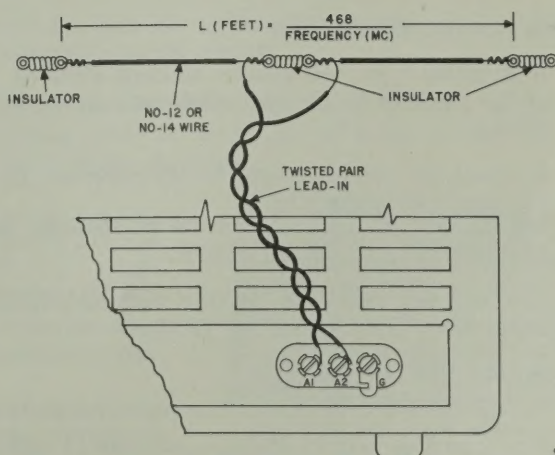

Fig. 4. Doublet Antenna Installation Using Twisted Pair Lead-In
2. Construct the antenna as shown in Fig. 4.